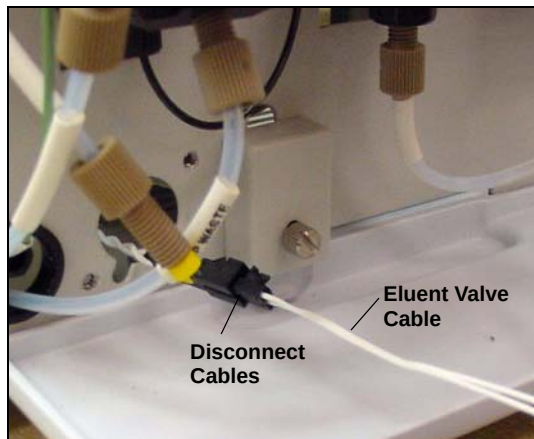

Figure 5-23. Eluent Valve Cable
7. The cable is connected to a matching cable inside the ICS-1500. Continue pulling until the connectors for the two cables are outside the panel (see Figure 5-23). Disconnect the cables.